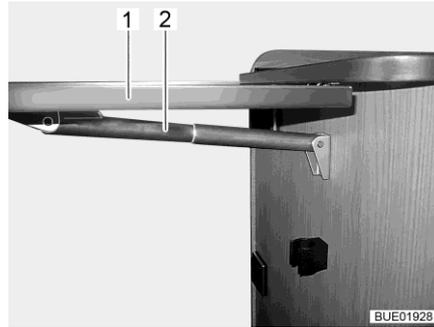

Fig. 50 Folding worktop
- Hold the folding worktop (Fig. 50,1) from below and pull gently to release it from the lock position.
- Swing up the table top until the fixture of the telescopic holder (Fig. 50,2) engages. Let go of the worktop.